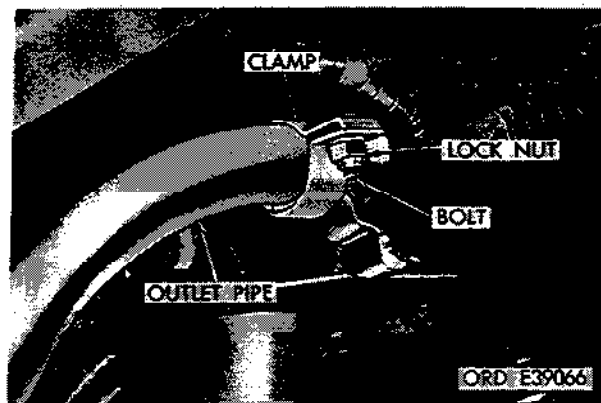

Figure 2-129. Disconnect rear outlet pipe and bracket (M151, M151A1, M151A1C and M718).
(2) Loosen two locknuts from bolts securing clamps to rear outlet pipe and support bracket (M151, M151A1, M151A1C and M718 only) (fig. 2-129).
(3) Remove two locknuts, washers, and bolts from clamp retaining rear outlet pipe to frame.